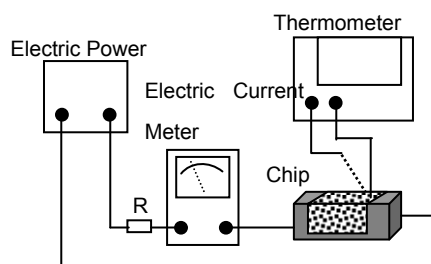

Fig. 5.3.5-1
- Definition of Rated Current(I_r): I_r is direct electric current as chip surface temperature rose just 20°C against chip initial surface temperature(T_a) (see **Fig. 5.3.5-2**).